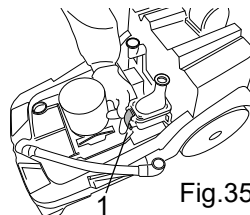

Fig. 35
- Release the retaining lever (fig. 35, ref. 1) and remove the cover of the diverter valve.